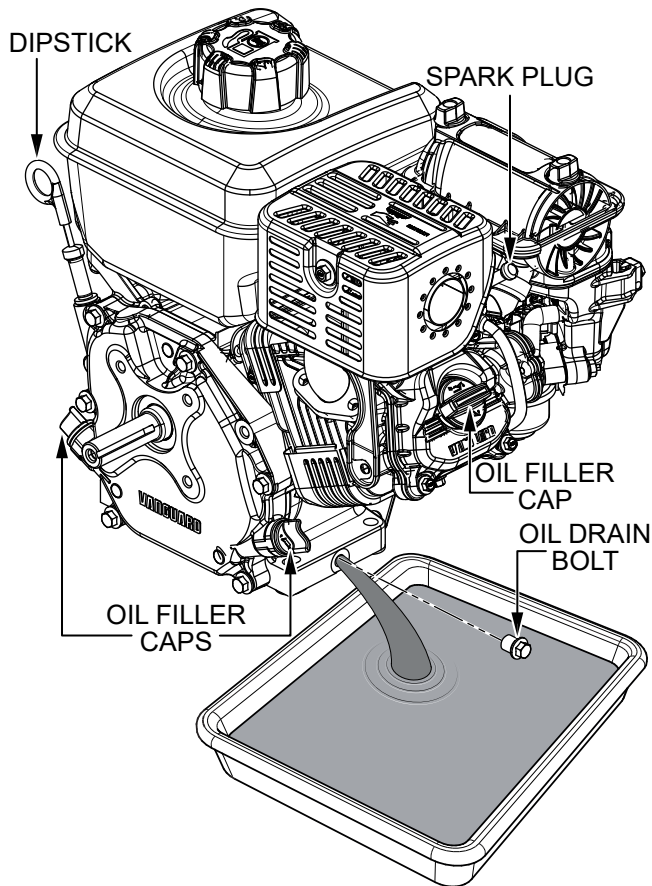

Figure 17. Draining Engine Oil
1. With the engine **OFF** but still warm, disconnect the spark plug wire and keep it away from the **spark plug** (Figure 17).
2. Remove the **engine oil dipstick** (Figure 17).
3. Remove one of the **oil drain bolts** (Figure 17) and allow the engine oil to drain into a suitable container.
5. Remove one of the **oil filler caps** (Figure 17) and fill with the recommended oil type listed in Table 6. Maximum engine oil capacity is 0.63 quarts (0.6 liters). **DO NOT** overfill.